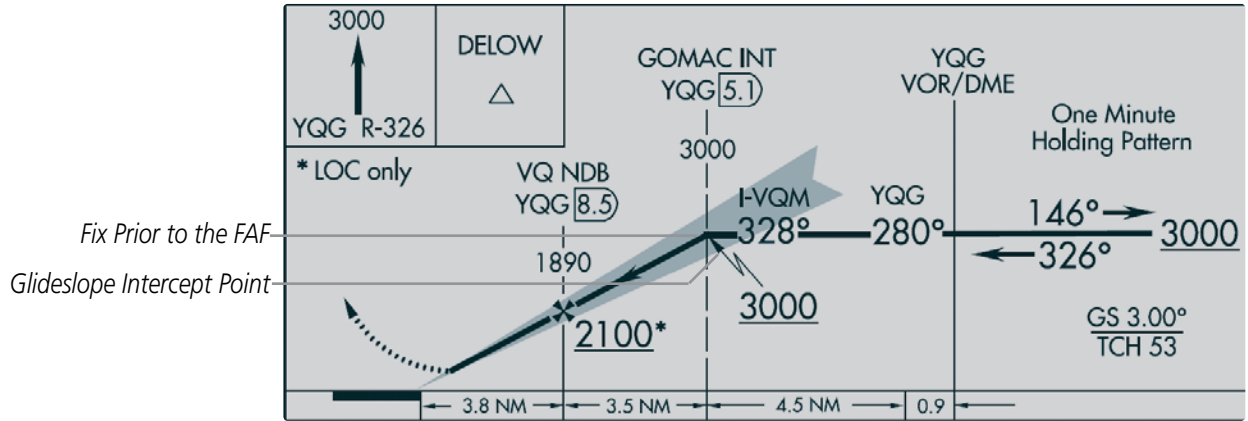

Figure 2-25 ILS Approach with Glideslope Intercept Point at Fix Prior to the FAF
On some ILS approaches where the glideslope intercept point is at or in close proximity to the fix prior to the FAF (see Figure 2-25), it is possible to be above the glideslope when the navigation source automatically switches from GPS to LOC. The probability of this occurring varies based on air temperature.
- During **approach**, the CDI scale ramps down even further (Figures 2-25 and 2-26). This transition normally occurs within 2.0 nm of the final approach fix (FAF). The CDI switches to approach scaling automatically once the approach procedure is activated or if Vectors-To-Final (VTF) are selected.